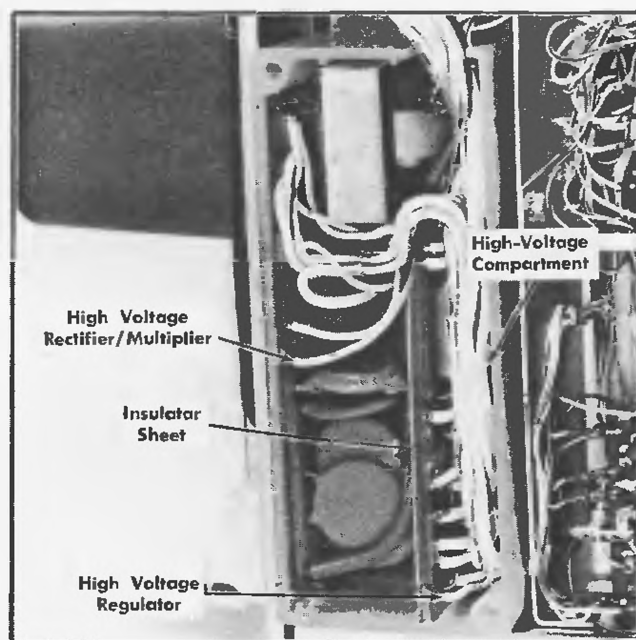

Fig. 4-6. Correct location of circuit boards in high-voltage compartment.
7. To replace the high-voltage compartment, reverse the order of removal. When placing the circuit boards back into the compartment, be sure the insulator sheet is installed in the proper place. Fig. 4-6 shows the correct location of the circuit boards and the insulator sheet.